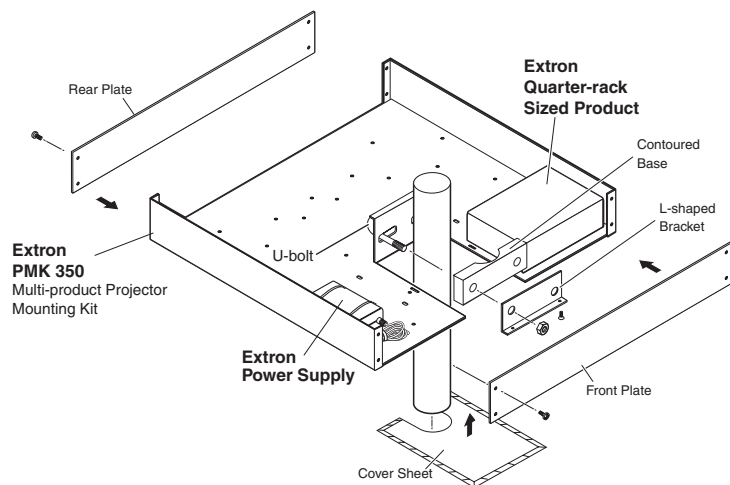

Figure 10 — PMK 350 projector mounting a SEQ
Mount the SEQ to a PMK 350 bracket (figure 10) as follows:
1. Remove the front and back plates from the PMK 350 (figure 10), using an Extron Tweeker or a #2 Philips screwdriver. Retain the screws to reattach the plates when you are finished.
5. Place the PMK 350 around the projector ceiling mounting pole (figure 10).